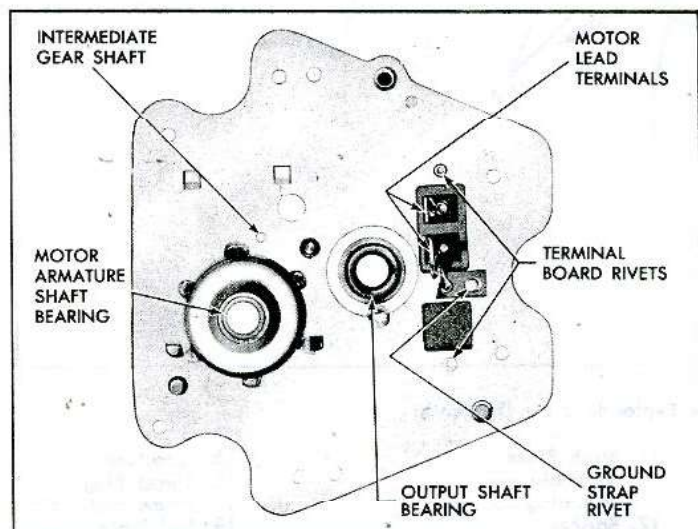

Fig. 32—Terminal Board—Single Speed Wiper
- b. Drill out rivets securing terminal board and park switch ground strap to mounting plate (fig. 32).